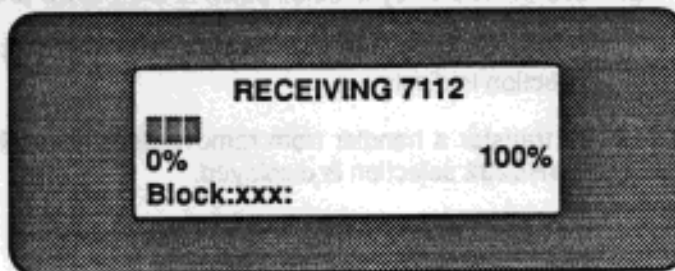

Figure 26: "RECEIVING PROGRAMMER" UPDATE PROGRESS
6. Press the white **ENTER** key. The programmer clicks as it dials out, and the message **WRITING for CARRIER** is momentarily displayed, followed by the message **WRITING for CONNECT to Update System** is displayed. When this handler request is detected by the Update System, the Update System transfers the requested handler. The progress of the handler reception is displayed on the programmer (see Figure 26). If the transfer is successful, the message **UPDATE SUCCESSFUL** is displayed. The cursor returns to the **UPDATE** menu. To update additional handlers, repeat steps 2 through 6.
5. Press the white **ENTER** key. The message **WAITING for CONNECT to Update System** is displayed. When this handler request is detected by the Sending Programmer, the Sending Programmer transfers the requested handler. The progress of the handler reception is displayed (see Figure 26). If the transfer is successful, the message **UPDATE SUCCESSFUL** is displayed. The cursor returns to the **UPDATE** menu. To update another handler, repeat steps 2 through 5.
6. Press the white **ENTER** key. The programmer clicks as it dials out, and the message **WAITING for CONNECT to Update System** is displayed. When this handler request is detected by the Sending Programmer, the Sending Programmer transfers the requested handler. The progress of the handler reception is displayed (see Figure 26). If the transfer is successful, the message **UPDATE SUCCESSFUL** is displayed. The cursor returns to the **UPDATE** menu. To update additional handlers, repeat steps 2 through 6.